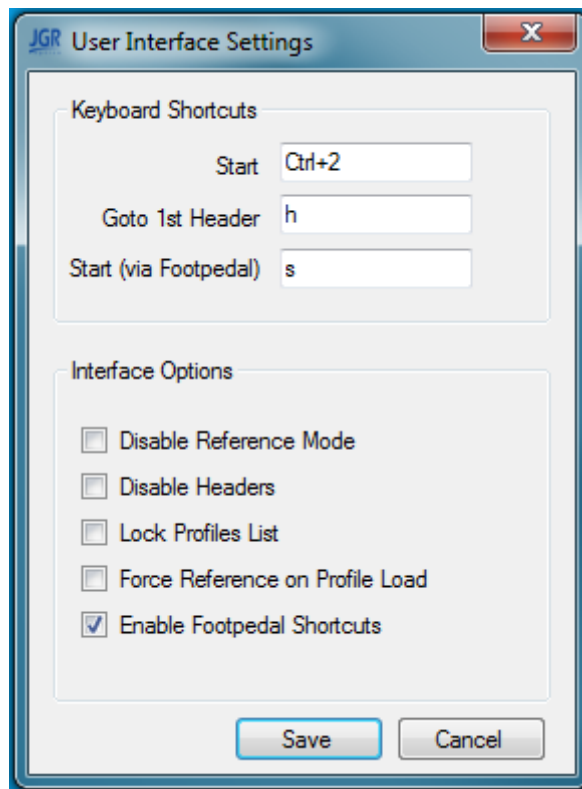

Figure 4.11: The User Interface Settings window.
- This menu (Fig. 4.11) can be accessed either through the Settings menu or by pressing Ctrl+U.